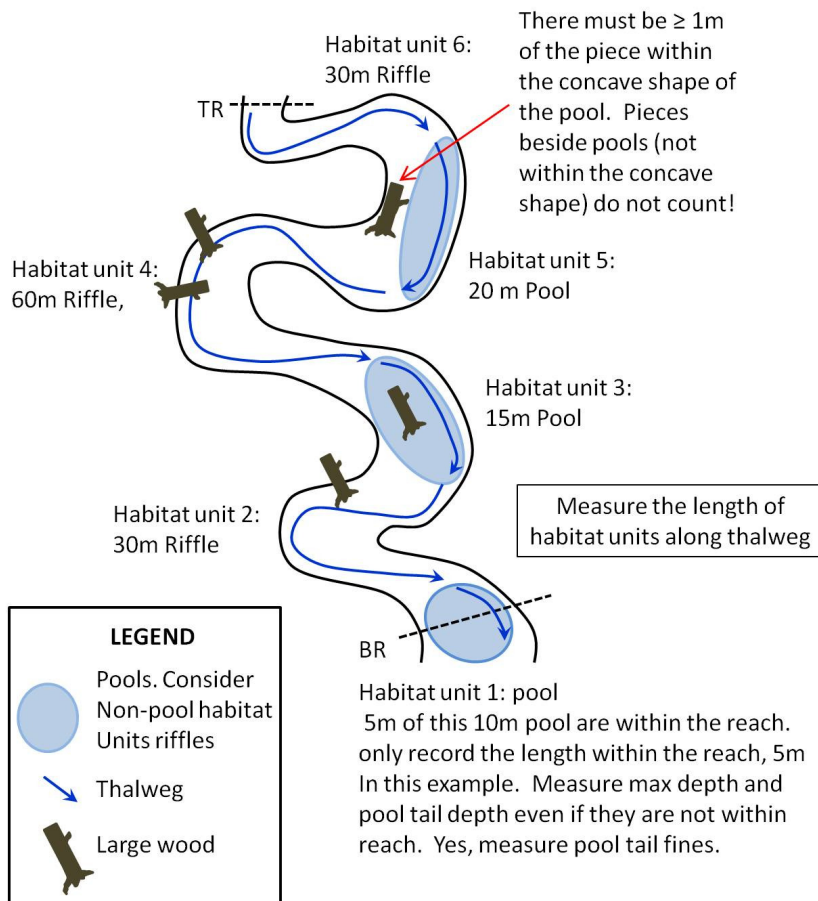

Figure 11. How to record habitat unit information.
- **Answer:** Yes. Examine figure 11. If a qualifying pool is partially in the reach, measure the length within the reach. Measure the pool tail depth and max depth even if they fall outside the reach. You also measure pool tail fines.